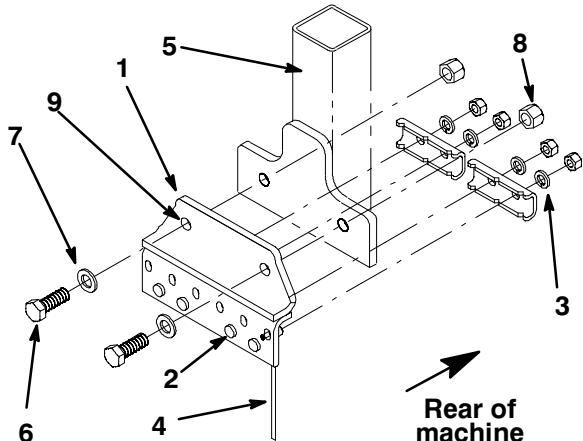

Figure 1
1. Insert (6) needle tines into holes in each tine head as shown in figure 1.
2. Slide (2) clamps over tines and onto mounting studs (Fig. 1).
3. Secure clamps to tine head with (4) lockwashers and nuts (Fig. 1). Torque the nuts to 60-70 ft-lb (85-95 N•m).
4. Mount the tine heads to the tine arms with (2) M16 x 45mm capscrews, flat washers, and lock nuts (Fig. 1). Torque to 155-180 ft-lbs (205-245 N•m).
Note: If mounting the tine head to MultiCore Model No. 09697, 09698, or 09699, you will need parts listed in the table below which are not included in this kit. Press the spacers into the tine head mounting holes (Fig. 1) and use the fasteners stated in the table to mount the tine heads to the tine arms. Torque to 60-70 ft-lbs (85-95 N•m).